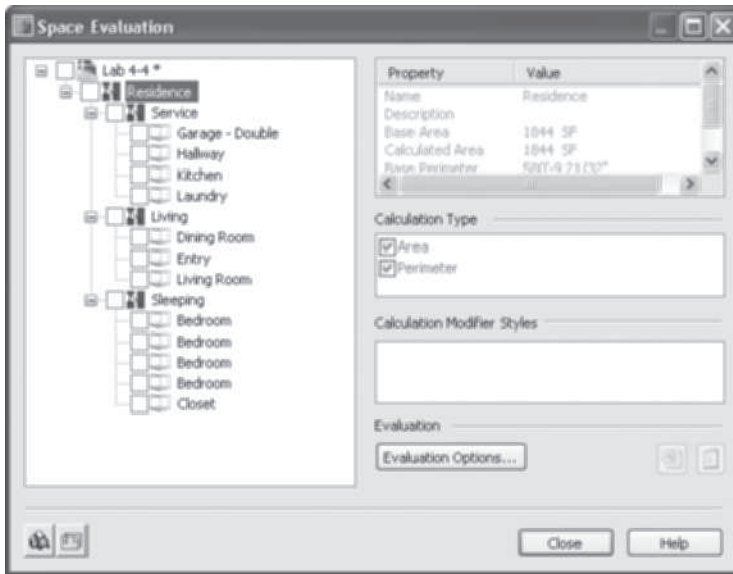

FIGURE 4.43 Space Evaluation dialog box
23. Select the **Residence** category to determine the total area of the plan at this point in the design. You can choose each category to determine the space total per category as shown in Figure 4.43.